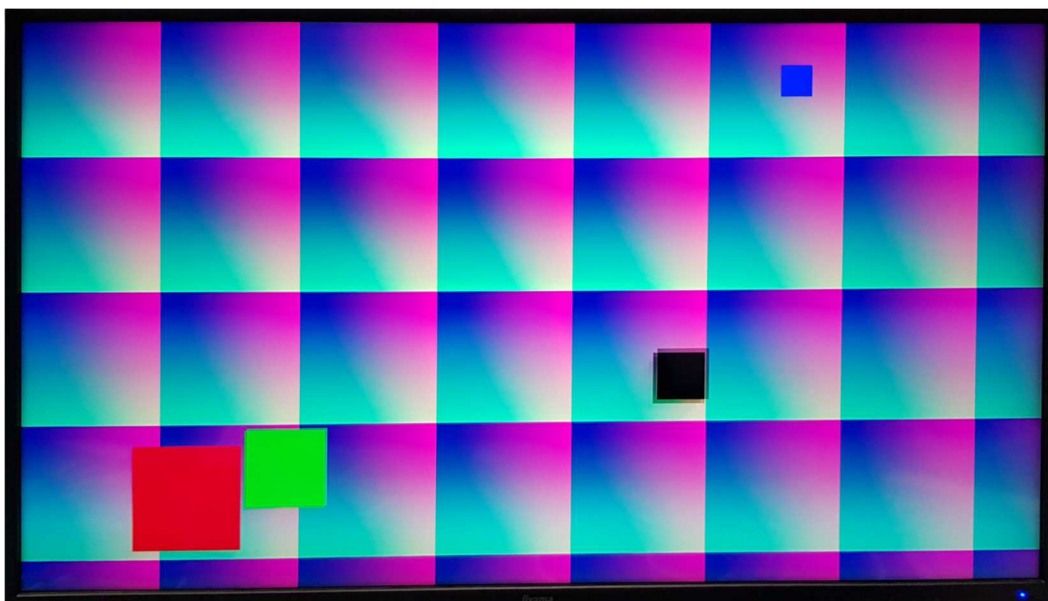

Figure 2.5: Test video output on VGA display
3. The moving test image (Figure 2.5) is displayed on the monitor connected via VGA. The squares move at different speeds on the monitor. Since the Pmod VGA output board only allows a resolution of 64 colors, the color gradients are stepped.